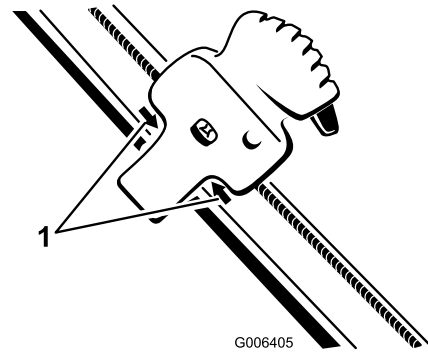

Figure 33
2. Position the Quick Shoot control between the 2 arrows located on the right side of the upper handle (Figure 33).